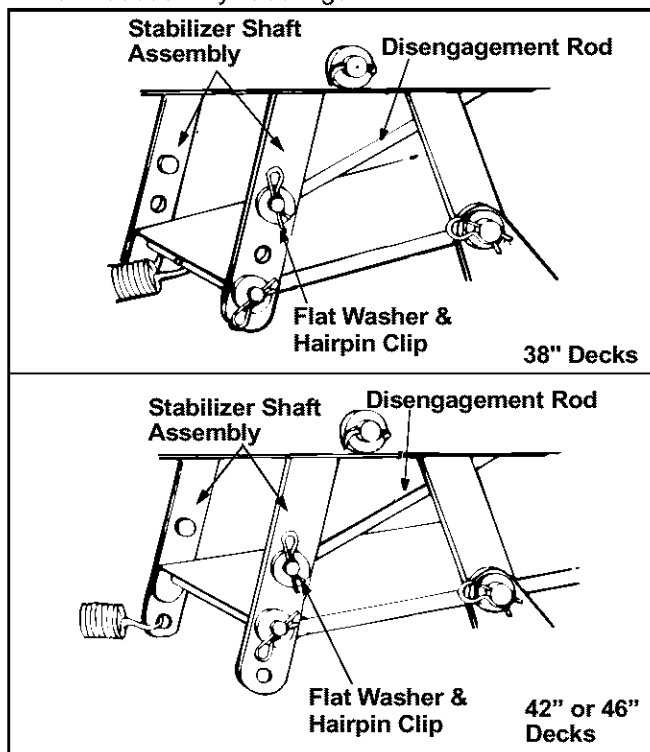

Figure 17
- Remove the cotter pin and flat washer which secure the disengagement rod to the stabilizer shaft assembly. See Figure 17.